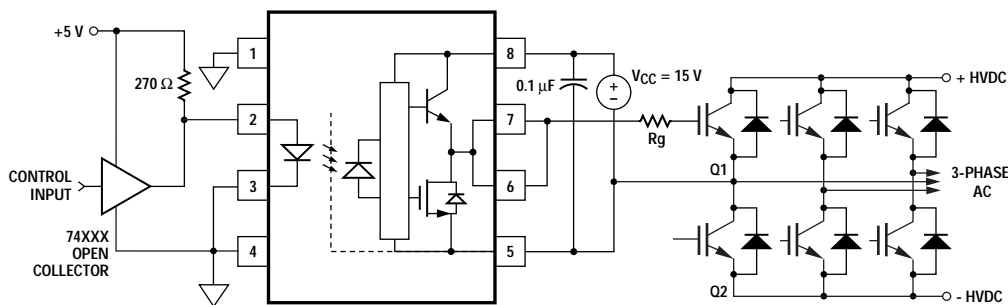
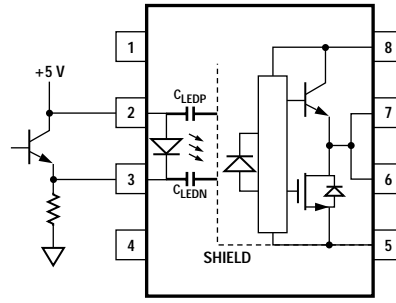

Figure 25. Recommended LED drive and application circuit for HCPL-3180.
Figure 32. Recommended LED drive circuit for ultra-high CMR.
by $R_g + 1 \Omega$. Minimizing R_g and the lead inductance from the HCPL-3180 to the IGBT gate and emitter (possibly by mounting HCPL-3180 on a small PC board directly above the IGBT) can eliminate the need for negative IGBT gate drive in many applications as shown in Figure 25. Care should be taken with such a PC board design to avoid routing the IGBT collector or
Step 1: Calculate R_g minimum from the I_{OL} peak specification. The IGBT and R_g in Figure 25 can be analyzed as a simple RC circuit with a voltage supplied by the HCPL-3180.
For the circuit in Figure 25 with I_F (worst case) = 16 mA, $R_g = 10 \Omega$, Max Duty Cycle = 80%, $Q_g = 100 \text{ nC}$, $f = 200 \text{ kHz}$ and $T_{AMAX} = +75^\circ\text{C}$:
design objective of a high CMR LED drive circuit becomes keeping the LED in the proper state (on or off) during common mode transients. For example, the recommended application circuit (Figure 25), can achieve 10 kV/μs CMR while minimizing component complexity.
performance. Figure 32 is an alternative drive circuit, which like the recommended application circuit (Figure 25), does achieve ultra high CMR performance by shunting the LED in the off state.